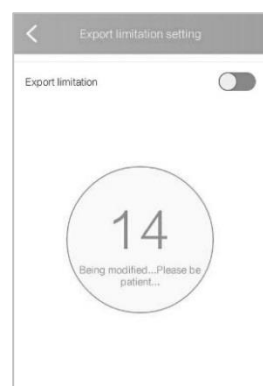
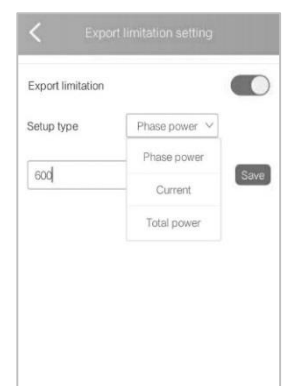

Figure 6.3 Countdown interface
Figure 6.4 Power limit/Current limit setting
(4) Turn on “export limitation”, Wait for 15s countdown seconds to set successfully, supply the power mode and current mode, as shown in Figure 6.3 and Figure 6.4